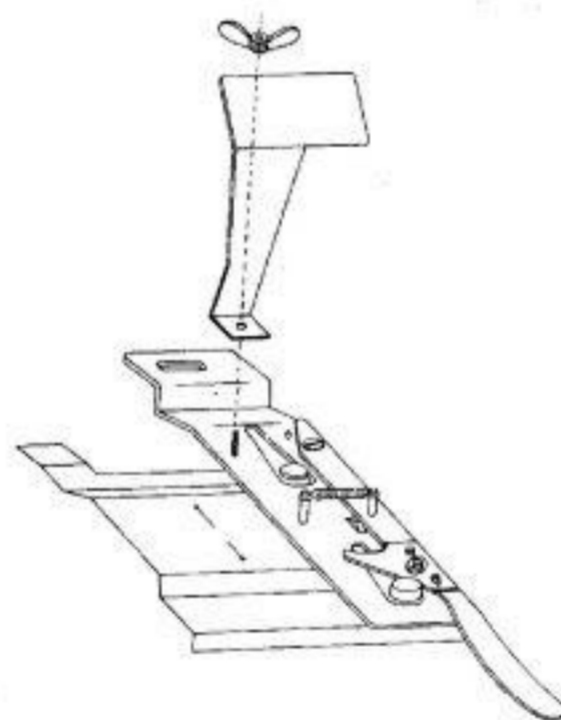

Fig. 10
4. Facing you on each mounting bracket will be seen a wing nut. Remove this nut and place the ribber stay over the screw—see Fig. 10. Replace the wing nut and ensure that it is well tightened.